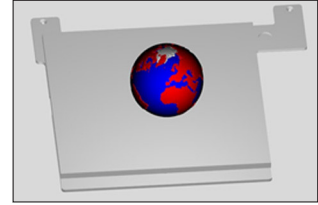

Fig. 75
- When all the .stl files are open, click the done button to finish the assembly file. This file can now be treated as one .stl file with multiple shells. (Fig. 75)